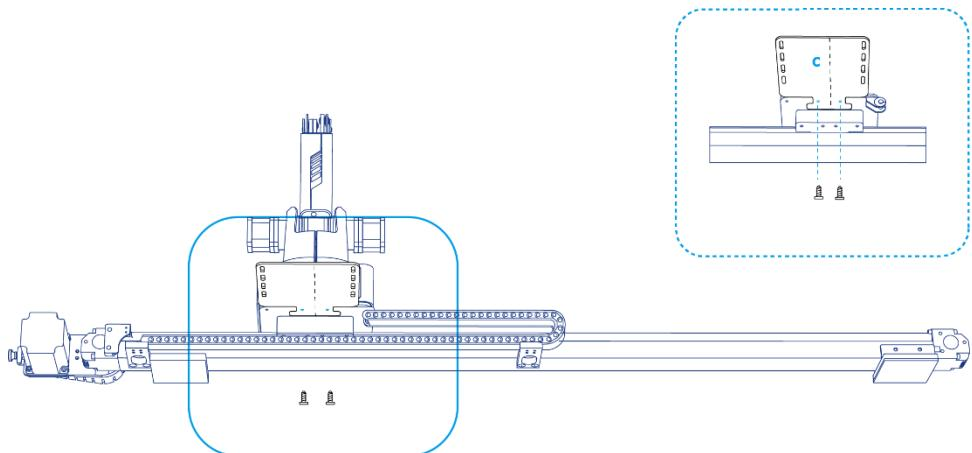

Figure 5.192 Fix plate **c**
1. Fix the plate **c** on the plate **a** with two M3\*8 hexagon socket head cap screws, as shown in Figure 5.192.